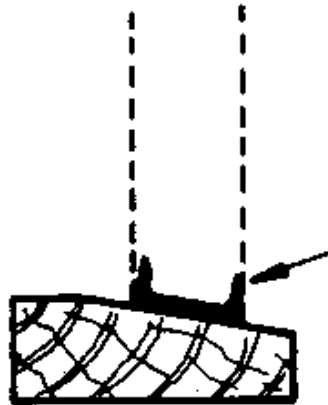

Fig. 3
d. If the cill is sloping, bend the lugs of the spacer so that they are upright. The bottom end of the louvre channel should be cut to fit the slope of the cill, so that it fits tightly (Fig. 3).